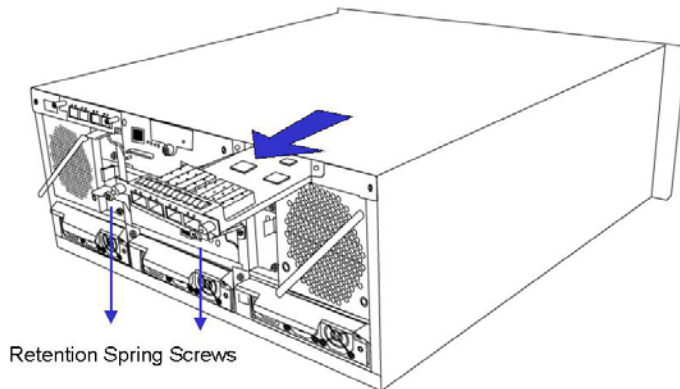

Figure 5-10: Removing the Host I/O Module
Step 2. **Use a screwdriver to loosen the retention screws.** (See Figure 5-10)